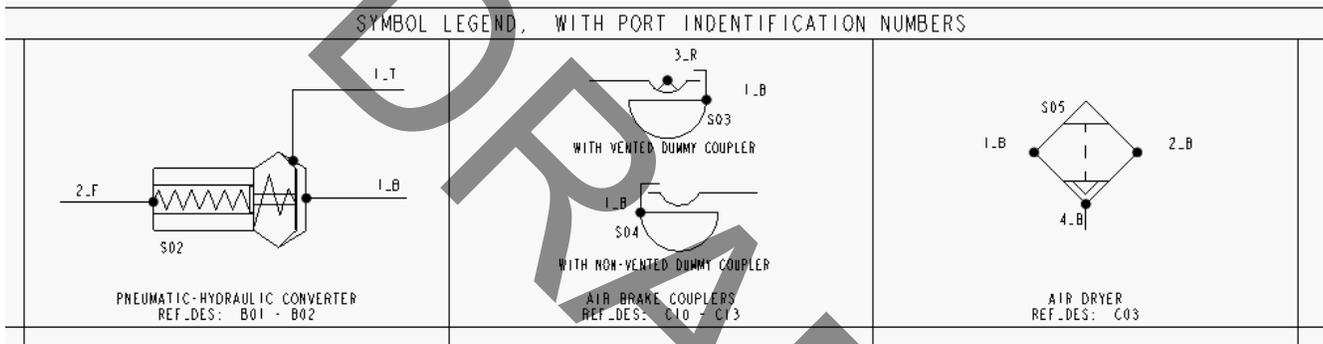

FIGURE 27: SYMBOL LEGEND EXAMPLE
- Symbol Legend; see *Figure 27*.